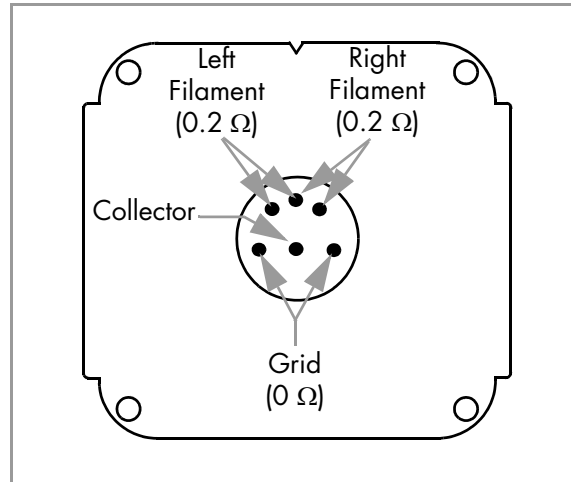

Figure 4-2 Micro-Ion Gauge Pin Identification.
6. Using a digital multimeter, measure the resistance of the left filament and the right filament between filament pins as shown in Figure 4-2 on page 29. The reading should be approximately 0.2Ω .
7. Measure the resistance of filament pins to any other pin or gauge case as shown in Figure 4-2. The reading should be infinity.
8. Measure the resistance between Grid pins as shown in Figure 4-2. The reading should be approximately 0Ω .
9. Measure the resistance of Grid pins to any other pin or gauge case as shown in Figure 4-2. The reading should be infinity.
10. Measure the resistance of Collector pin to any other pin or gauge case as shown in Figure 4-2. The reading should be infinity.